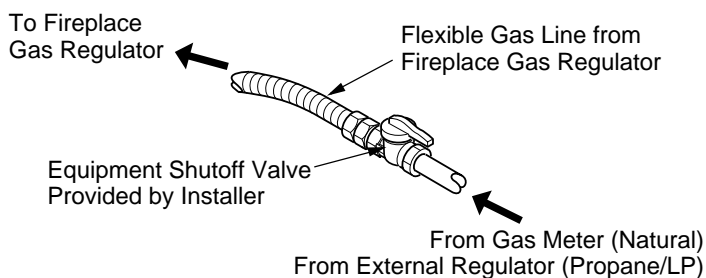

Figure 26 - Attaching Gas Lines Together
**NOTICE:** Most building codes do not permit concealed gas connections. A flexible gas line is provided to allow accessibility from the fireplace (see Figure 26). The flexible gas supply line connection to the equipment shutoff valve should be accessible.
3. Attach the flexible gas line to gas supply (see Figure 26). Check tightness of flexible gas line attached to gas regulator of fireplace (see Figure 26).